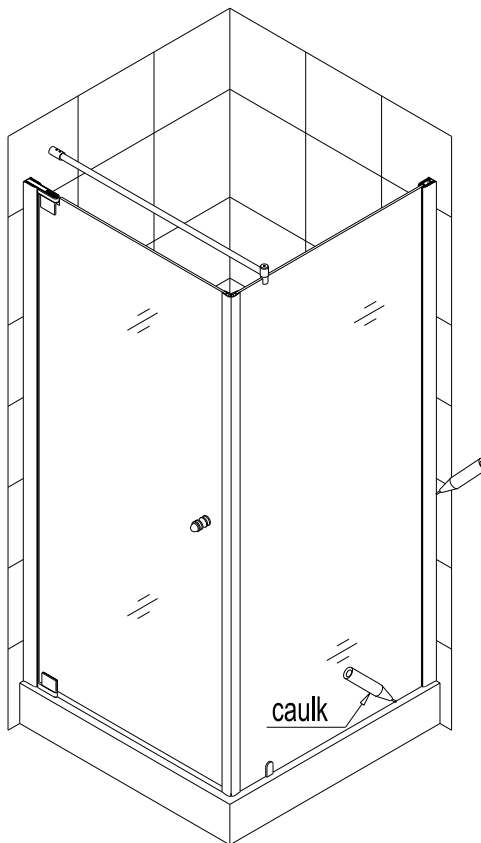

Fig. 15
15. Seal with silicone between the shower tray and the stationary glass, between the wall and the wall profiles. See fig. 15 for details.